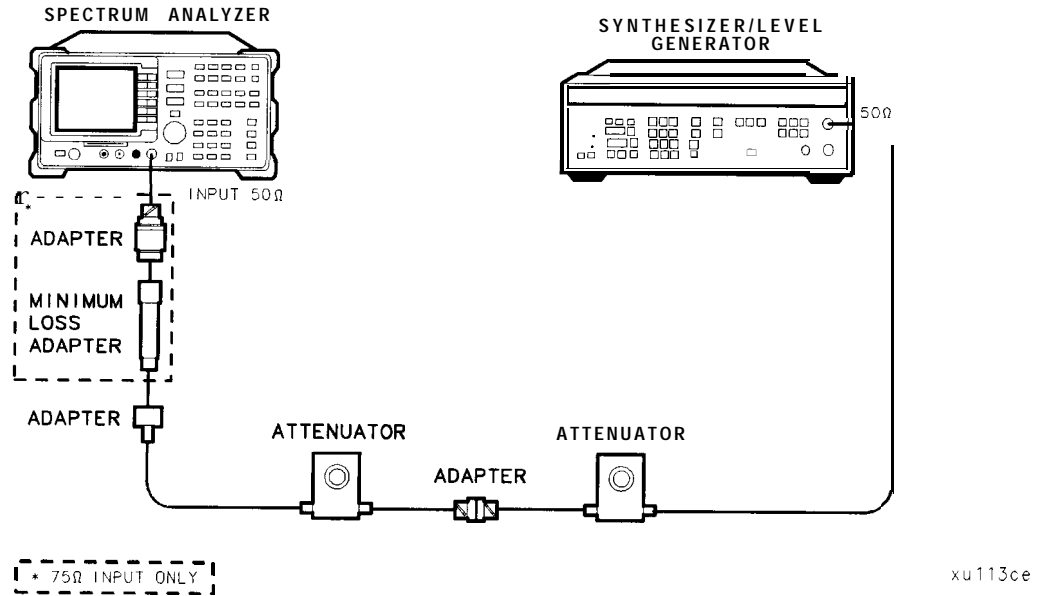

Figure 2-17. For HP 85913 Only - Scale Fidelity **Test** Setup
2. Connect the equipment as shown in Figure 2-17. Set the 10 dB step attenuator to 10 dB attenuation and the 1 dB step attenuator to 0 dB attenuation.
**MKR FCTN** MK TRACK ON OFF (ON)